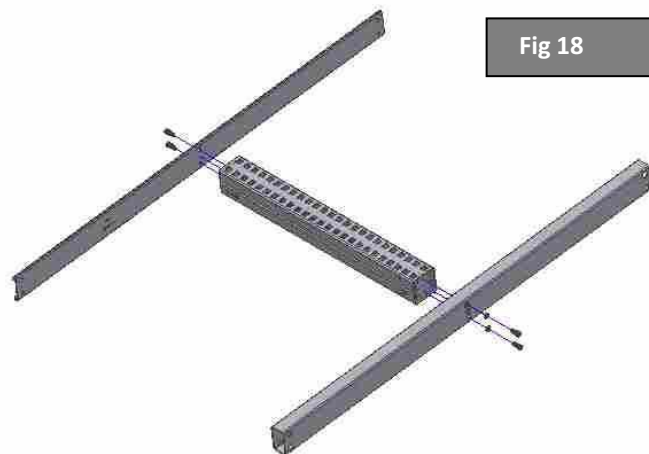

Fig 18
STEP 1 – Assembly of the “I” body of the **frame**: position the **1200 console top profile** and the **1200 bottom frame bar** on the **740 middle double bar** (Fig. 18).